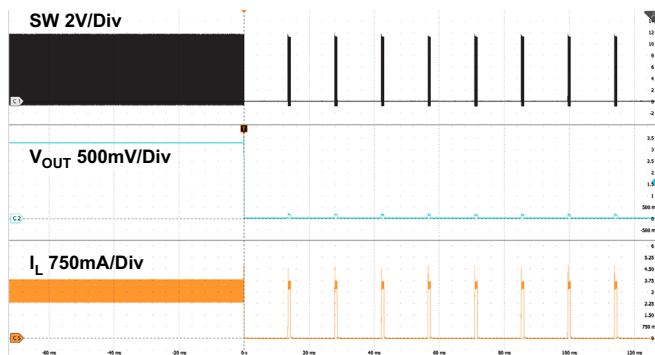

Figure 34. Hiccup after Output Short-Circuit
RAA211230 also has a V_{OUT} undervoltage (UV) protection. The internal undervoltage comparator compares the FB pin voltage to 65% of the reference voltage. When LSOC is detected and this voltage drops below 65% of nominal (because of a drop in V_{OUT} to below 65% of its set point), the regulator stops switching and engages Hiccup mode operation at an interval of 13ms (see Figure 34).